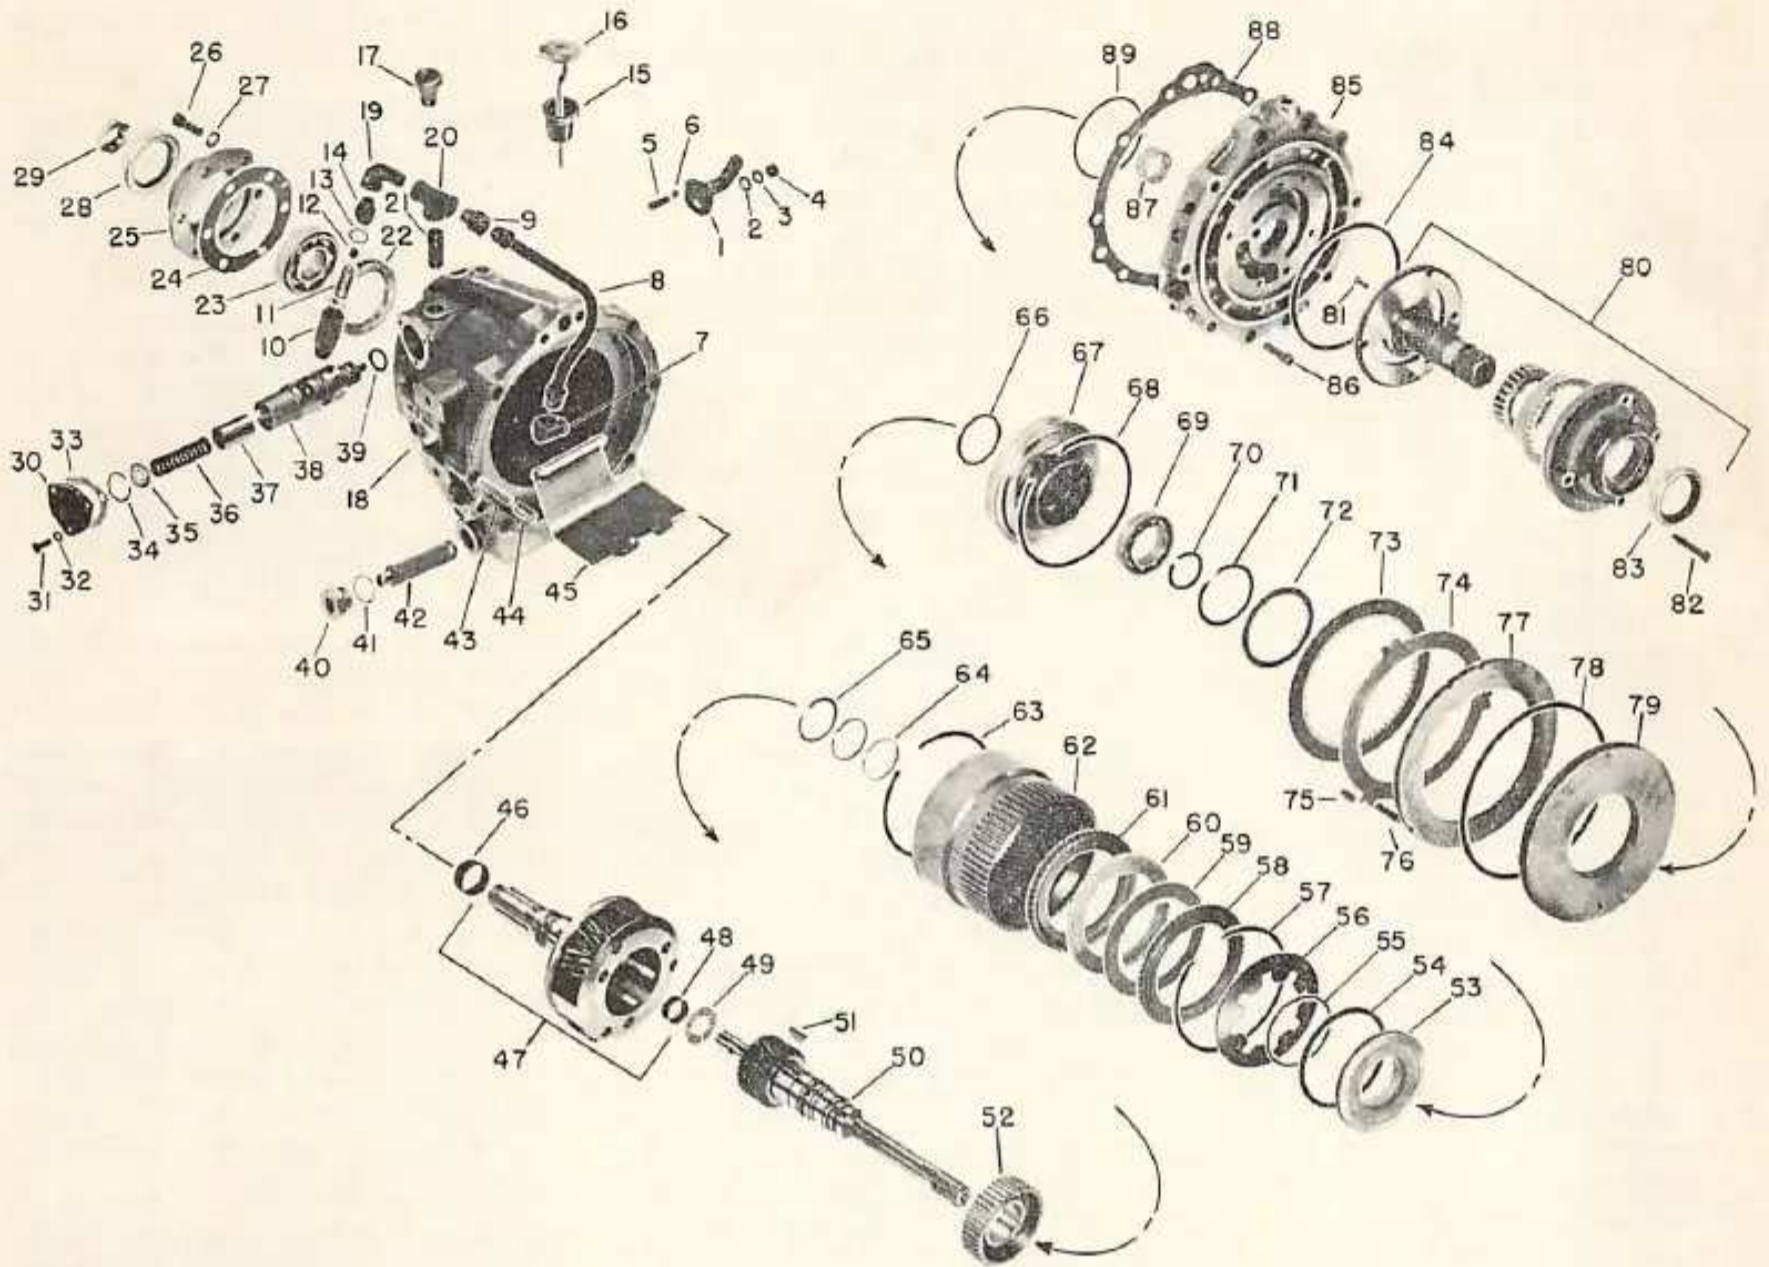

Fig. O116 — Exploded view of the Reverse-O-Torc drive unit showing component parts and their relative positions.
Fig. O115 — Reverse-O-Torc Drive unit (19) is driven by torque converter (36) mounted on engine flywheel and is coupled to transmission input shaft by sprockets (1 and 6) and chain (2). Refer to Fig. O116 for exploded view of the Reverse-O-Torc unit. Converter is serviced as a complete assembly only.
183. OVERHAUL REVERSE - O - TORC DRIVE UNIT. After removing the drive unit as outlined in paragraph 181, remove unit oil filter and external oil lines. Then, refer to Fig. O116 and proceed as follows:
move the plug (5—Fig. O115) from sprocket (6). Then, hold sprocket with suitable tool and remove nut (29—Fig. O116) from rear end of output shaft. With a suitable soft drift, bump rear end of output shaft until free of bearing (23) and remove the shaft and planetary assembly from housing. Unbolt retainer (25) from rear end of housing. Drive bearing (23) and seal (28) out of retainer. Sleeve (22) can be pressed from rear of housing (18) and is available for service; however, renewal of sleeve should not be necessary. Baffle (45) can be snapped out of housing for cleaning purposes; note position of baffle before removing same.
184. To reassemble the Reverse-O-Torc Drive unit, refer to Fig. O116 and proceed as follows: If removed, snap the baffle (45) into place inside housing; two holes in rear end of baffle should fit over two bosses cast into the housing. Reinstall filter screen (42).
bly (47) through rear bore of housing and bump the assembly rearward until shoulder on shaft is firmly seated against ball bearing. Lubricate seal and seal contact surface of sprocket (6—Fig. O115) and place on rear end of output shaft. Install a new self-locking nut (29—Fig. O116) and tighten the nut securely. Install a new plug (5—Fig. O115) in rear end of sprocket (6).
To reassemble the forward clutch unit, place ring gear (62—Fig. O116) on bench with front end (end with splines on outside) up. Place rear pressure plate (61) in ring gear with flat machined side up. Lubricate the clutch plates (59 and 60) and place the plates alternately in ring gear with plate having internal teeth next to the pressure plate. Install front pressure plate (58) with flat machined side down and secure pressure plate with snap ring (57). Note: Be sure proper snap ring is used; snap ring thickness should be 0.090-0.093 and free diameter should be approximately $5\frac{1}{8}$ inches. Place clutch spring (56) on snap ring with concave side of spring towards snap ring. Lubricate and install "O" rings (54 and 66) in grooves of piston (53) and cylinder (67). Install piston in cylinder with flat side in. With heavy grease, stick spring bearing ring (55) in groove in face of piston. Install the assembled cylinder in ring gear being careful that ring (55) does not drop out. Place the unit in an arbor press and with a proper size arbor, compress cylinder against clutch spring and install snap ring (68). Release pressure and turn the assembly over with ring gear (rear) end up. Place a proper size arbor against clutch pressure plate (61) and compress the clutch components against snap ring (68). Measure the clearance between pressure plate and rear side of snap ring groove inside the ring gear. Then, install the proper thickness of snap ring (63) to provide 0.056-0.086 clearance between pressure plate and snap ring. Snap rings are available in three thicknesses of 0.050-0.054, 0.074-0.078 and 0.096-0.100 which are color coded respectively, green, orange and white.
Install new oil seal (83) in pump cover with lip of seal to rear (inward) and reassemble pump using Fig. O116 as a guide. Tighten the flat head screws (81) to a torque of 17-22 Ft.-Lbs. Pump gears should turn freely at this time. Lubricate the pump and install pump on front adapter plate with a new gasket (84). Tighten the retaining cap screws to a torque of 17-22 Ft.-Lbs. Note: Be sure that the long cap screws are installed at the thick pump bosses.